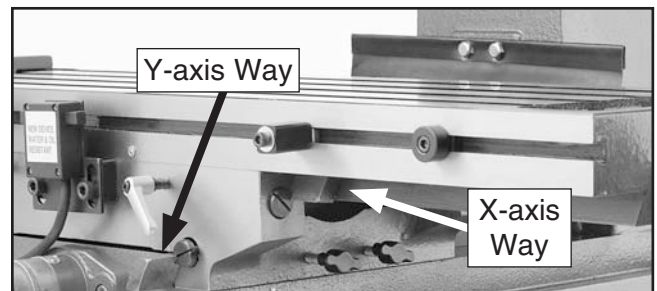

Figure 67. Table ways.
1. Use a shop rag and mineral spirits to wipe away the old lubricant and built-up grime on the ways, then brush on a thin coat of way oil onto the X- and Y-axis ways (see Figure 67).